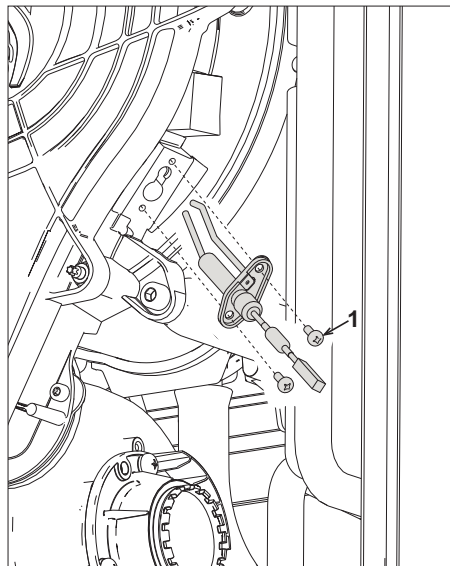

fig. 44
- To clean the exchanger, it is advisable to remove the electrode (see fig. 44)